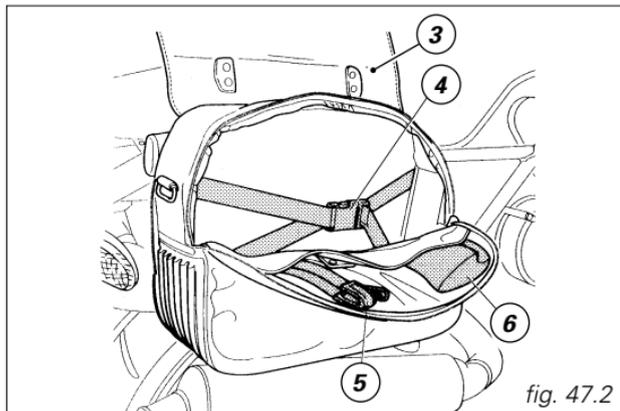
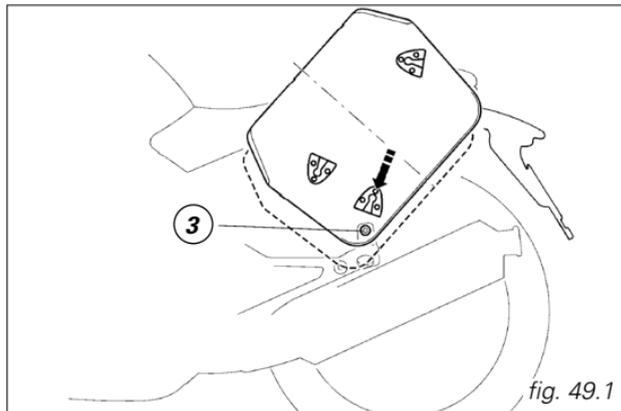

fig. 47.2
fig. 49.1
Before fastening the bag to the motorcycle, be sure to remove the shoulder strap (5, fig. 47.2), if you have used it, and put it back into the inner compartment. Check that the rear flap is neatly folded and strapped down (4, fig. 48.4). Position the bag as shown in fig. 49.1, then push it down until you hear the bottom stud (3) click in place into the lower catch.